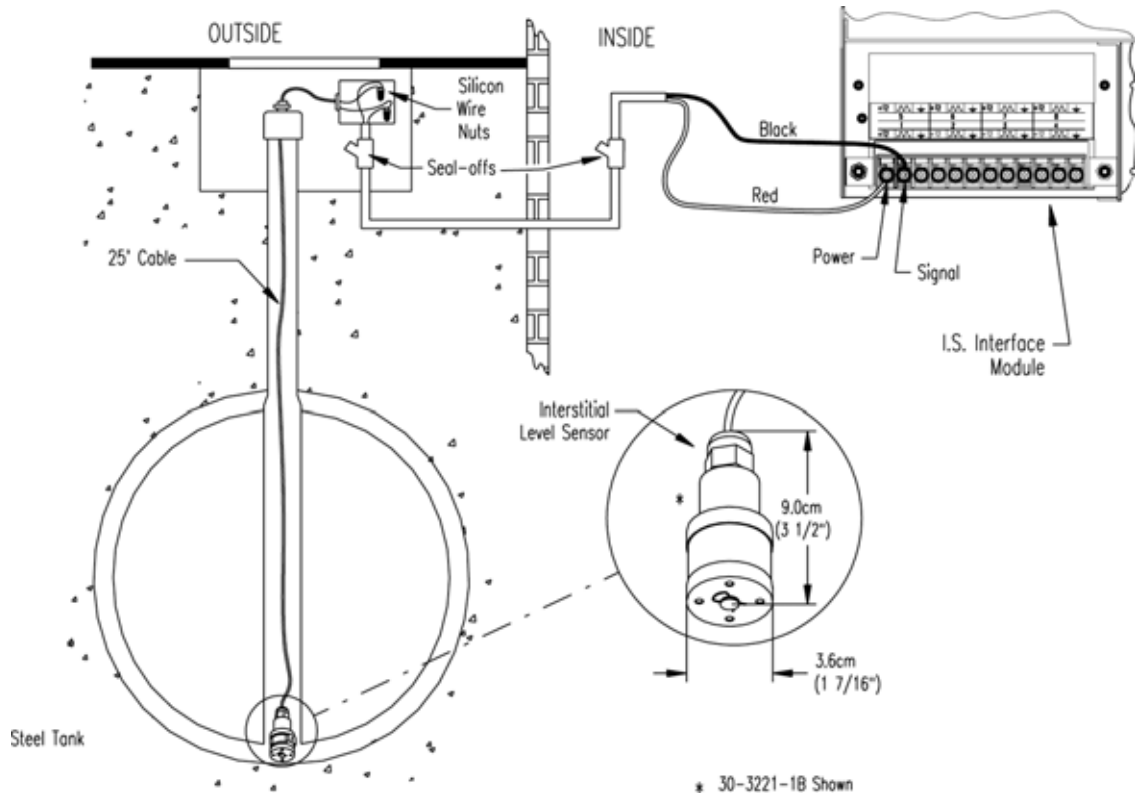

Figure 23: Interstitial Level Sensor Installation
- Review Figure 23 on page 66.